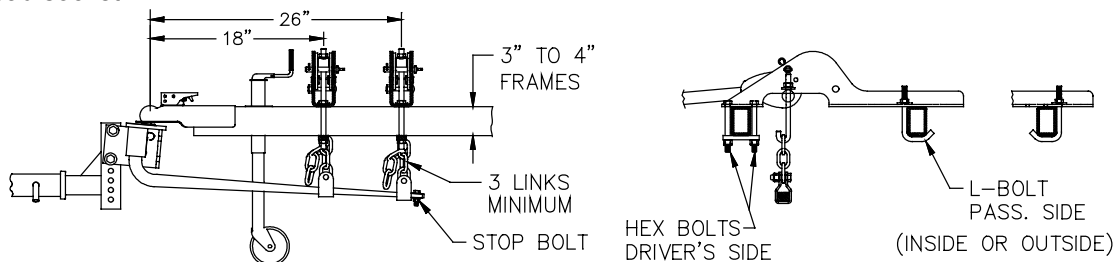

Figure 8
2. Install the (2) two ½-13 x 6" lg. hex bolts and the L-bolt as shown in figure 8.